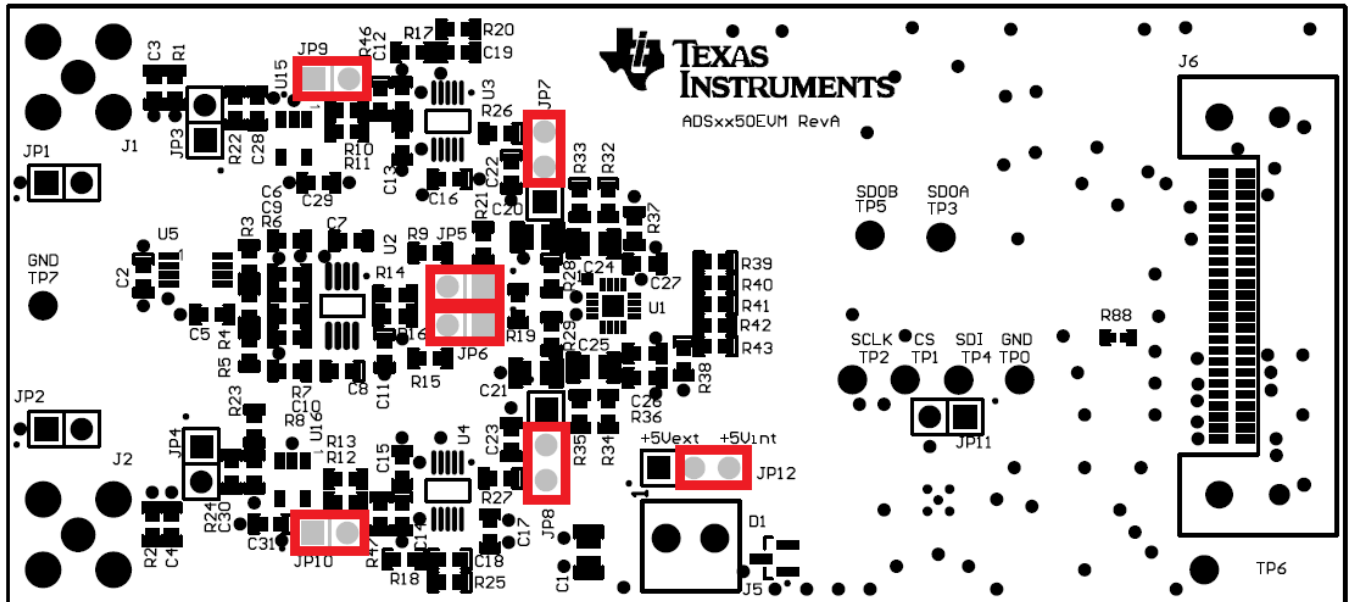

Figure 5. ADS8350EVM Default Jumper Settings
A silkscreen plot detailing the default jumper settings is shown in Figure 5. Table 5 explains the configuration for these jumpers.
- Step 2. Verify the ADS8350EVM jumpers are configured as shown in Figure 5.